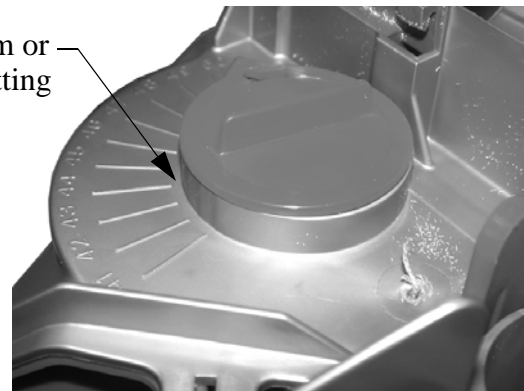

Figure 27. Adjustment Knob Installation
4. Adjustment Knob installed and set. **See Figure 27.**
6. Grill width set to 44mm or recommended setting from poultry company. **See Figure 27.**